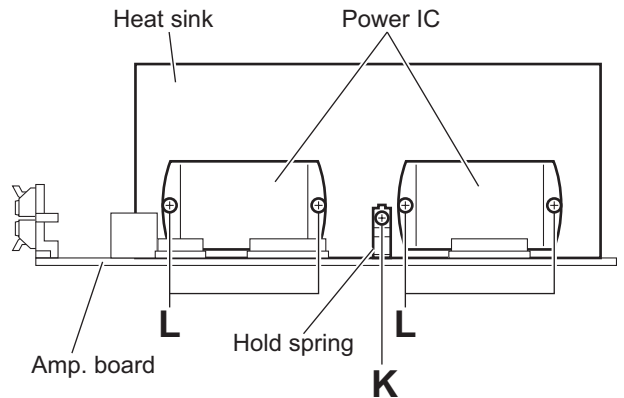

Fig.11
(See Figs.11 and 12)
- (1) From left side of the amp. board, remove the screw **K** attaching the hold spring to the heat sink. (See Fig.11)
- (2) Remove the four screws **L** attaching the power IC to the heat sink. (See Fig.11)